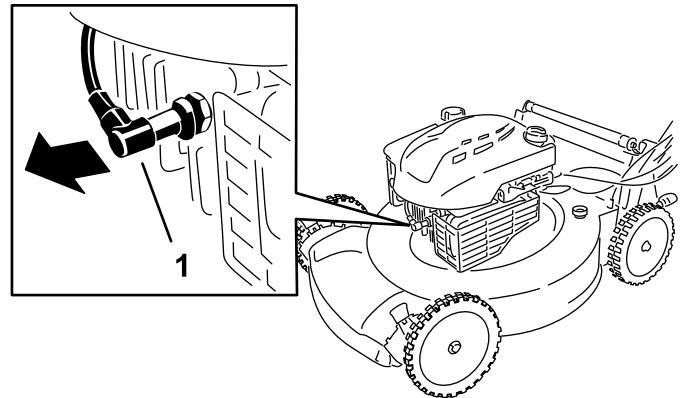

Figure 23
- Disconnect the spark-plug wire from the spark plug (Figure 23).
2. Disconnect the wire from the spark plug (Figure 23).